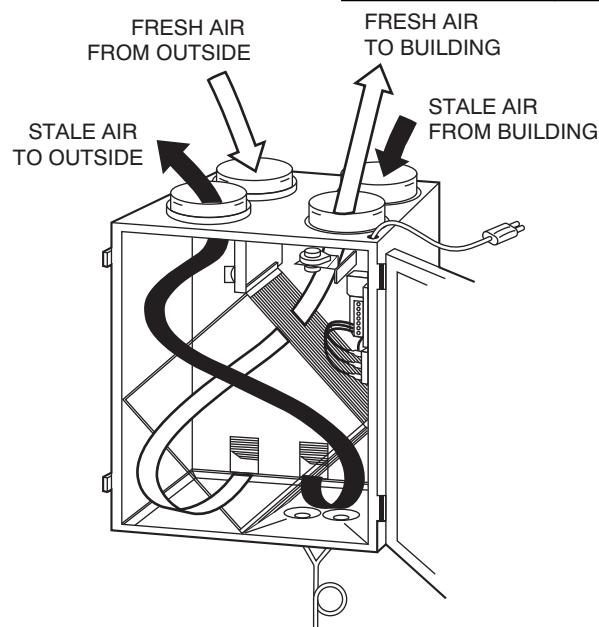
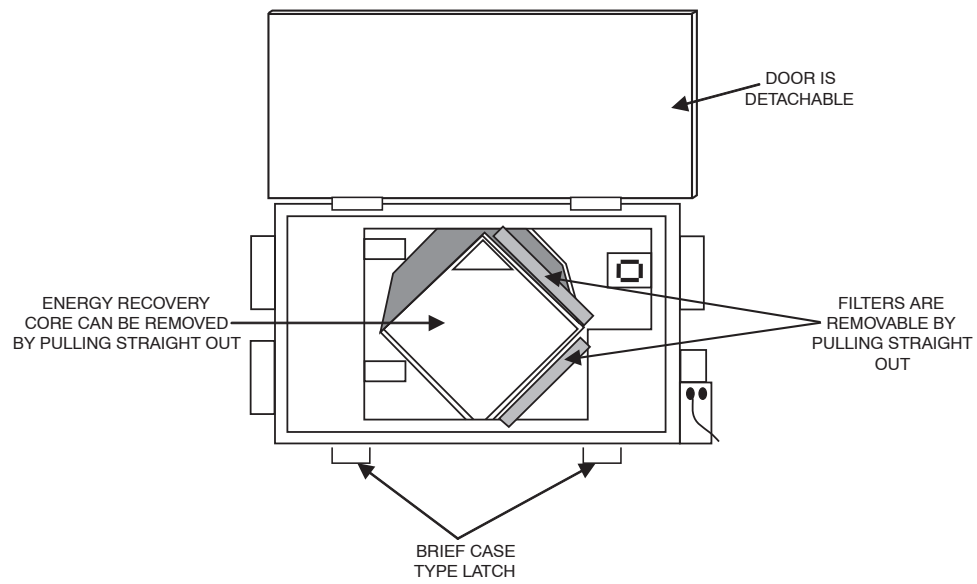

Fig. 3 - Vertical Application
Fig. 4 - Horizontal Application
5. Examine the condensate drain pan to ensure drains are functioning properly. Gently clean tray with mild soapy water. (See Fig. 3 and Fig. 4).